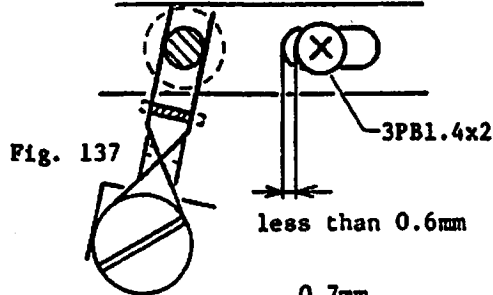

Fig. 137
- 2) Bend Spring (aRSH7175) so as to leave less than 0.6mm gaps between the slit of Horizontal lever and Screw (3PB1.4x2) as shown in Fig. 137